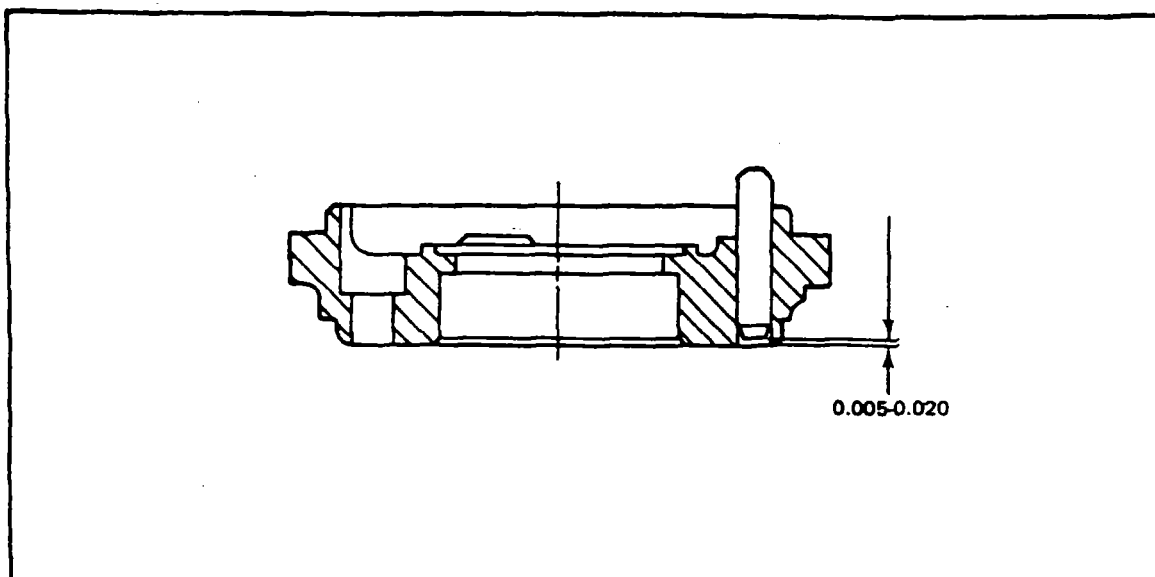

Figure 8-19. Stop Pin Installation Dimension
- b. Inspect impulse coupling stop pins for damage. If pins are bent, damaged or excessively worn, remove pins using a suitable drift and arbor press. Press new pins into flange until dimension shown in Figure 8-19 is obtained.